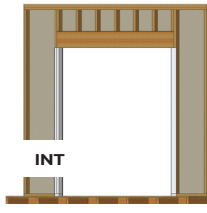

FIG. 3
- Fold back the WRB on the sides toward the interior and staple into place. (Fig. 3)